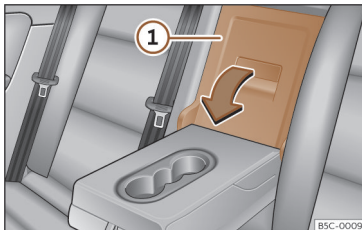

Fig. 130 In the rear seat backrest: opening the trapdoor.
- Pull the release lever in the direction of the arrow and push the tailboard cover >>> **Fig. 130** ① down and forwards.